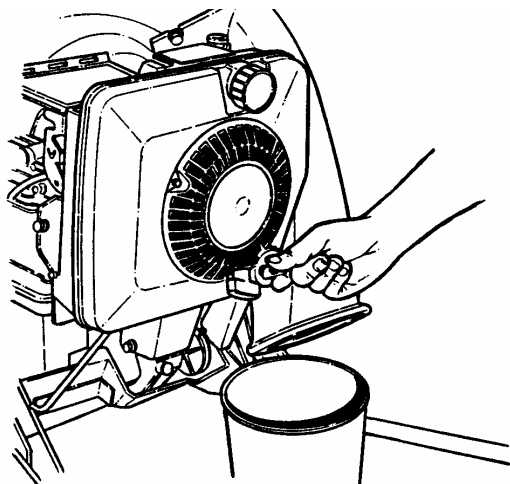

FIGURE 3.1
2. For simplest/cleanest oil change, loosen lower handle nuts and fold handles. Stand mower up on lower handle brackets as shown in Figure 3.1. Drain oil through dipstick tube into a container. Allow sufficient time for all oil to drain. **NOTE:** Drive control rod on self-propelled models prohibits handles from folding. Simply tip mower on its side to drain oil.